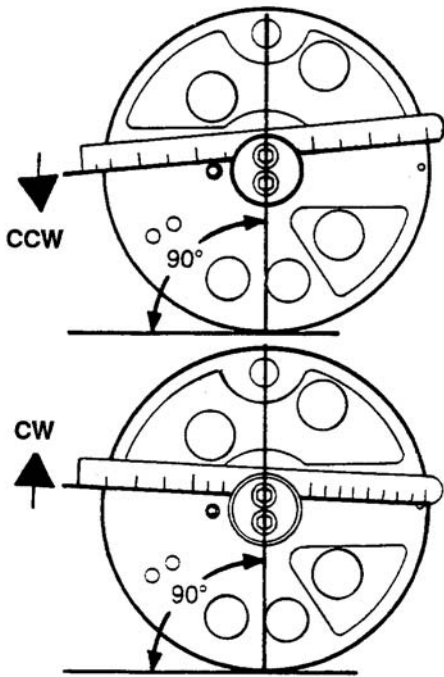

Figure 6-134. Determining Pintle Rotation
25. Install the pintle by aligning the dowel pin hole in the pintle assembly with the cam ring pivot pin. Install over pump rotor assembly. See Figure 6-134.